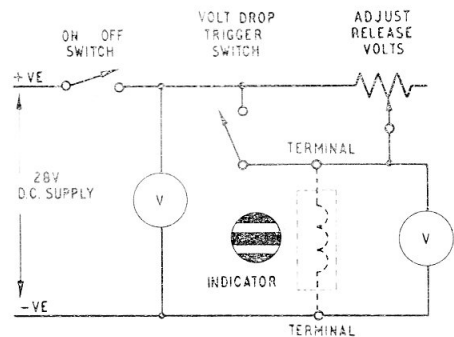

Fig. 1. Test circuit diagram
3. The equipment should be connected up as shown in fig. 1.